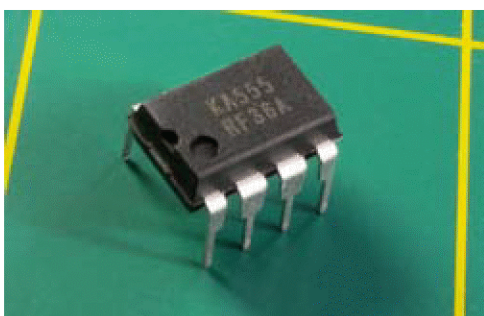

Figure 4-2. An integrated circuit chip in Plastic Dual-Inline Pin package, abbreviated PDIP, or, more often, DIP.
Figure 4-2 shows what is often referred to as an integrated circuit (IC). The circuit is actually etched onto a tiny wafer or “chip” of silicon, embedded in a black plastic body, which is properly referred to as the “package.” Tiny wires inside the package link the circuit with the two rows of pins on either side. Throughout this book, I will use the word “chip” to refer to the whole object, including its pins, as this is the most common usage.
Just about every chip has a part number printed on it. In Figure 4-2, the part number is KA555. In Figure 4-3, the DIP chip’s part number is M74HC00B1, and the surface-mount chip is a 74LVC07AD. You can ignore the second line of numbers and/or letters on each chip, as they are not part of the part number.
- 555 Timer. STMicroelectronics SA555N, Fairchild NE555D, RadioShack TLC555, or similar. Do not get the "CMOS" version of this chip, or any fancy versions such as those of high precision. Buy the cheapest you can find. Quantity: 10. The chip in Figure 4-2 is a 555 timer.